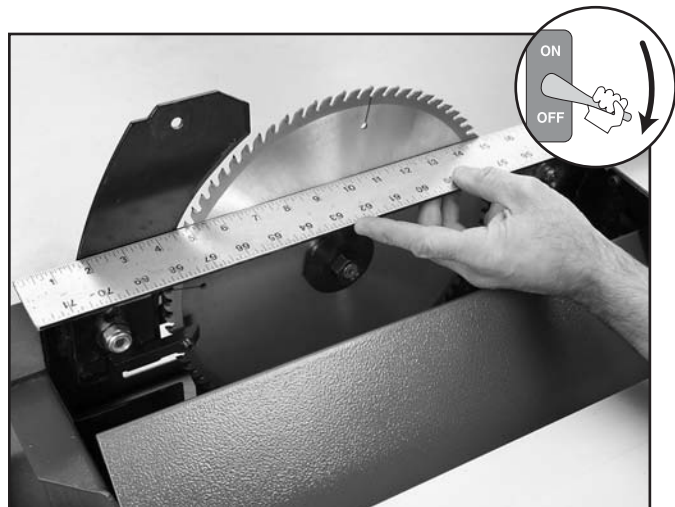

Figure 37. Checking riving knife alignment.
3. Check both sides of the blade with a straight-edge touching the teeth as shown in **Figure 37**.